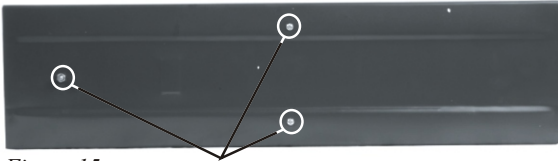

Figure 15 Remove the nuts
1. Remove the nuts from the anchor studs on the bottom of the shipping frame. As shown in Fig. 15.